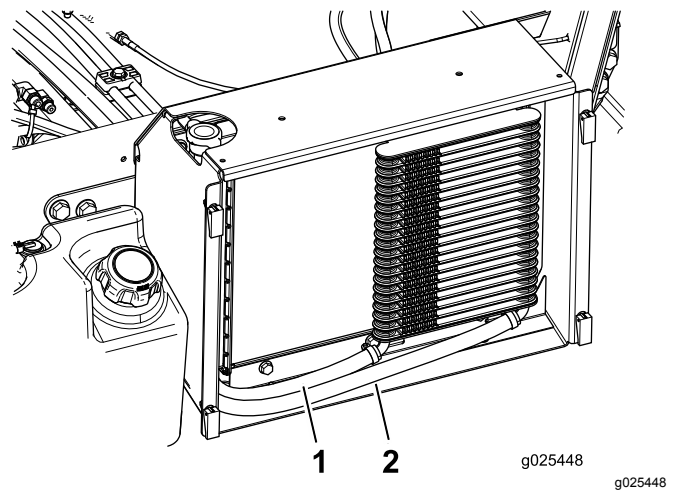

Figure 18
7. Install the long hoses to the cooler as shown in Figure 18.